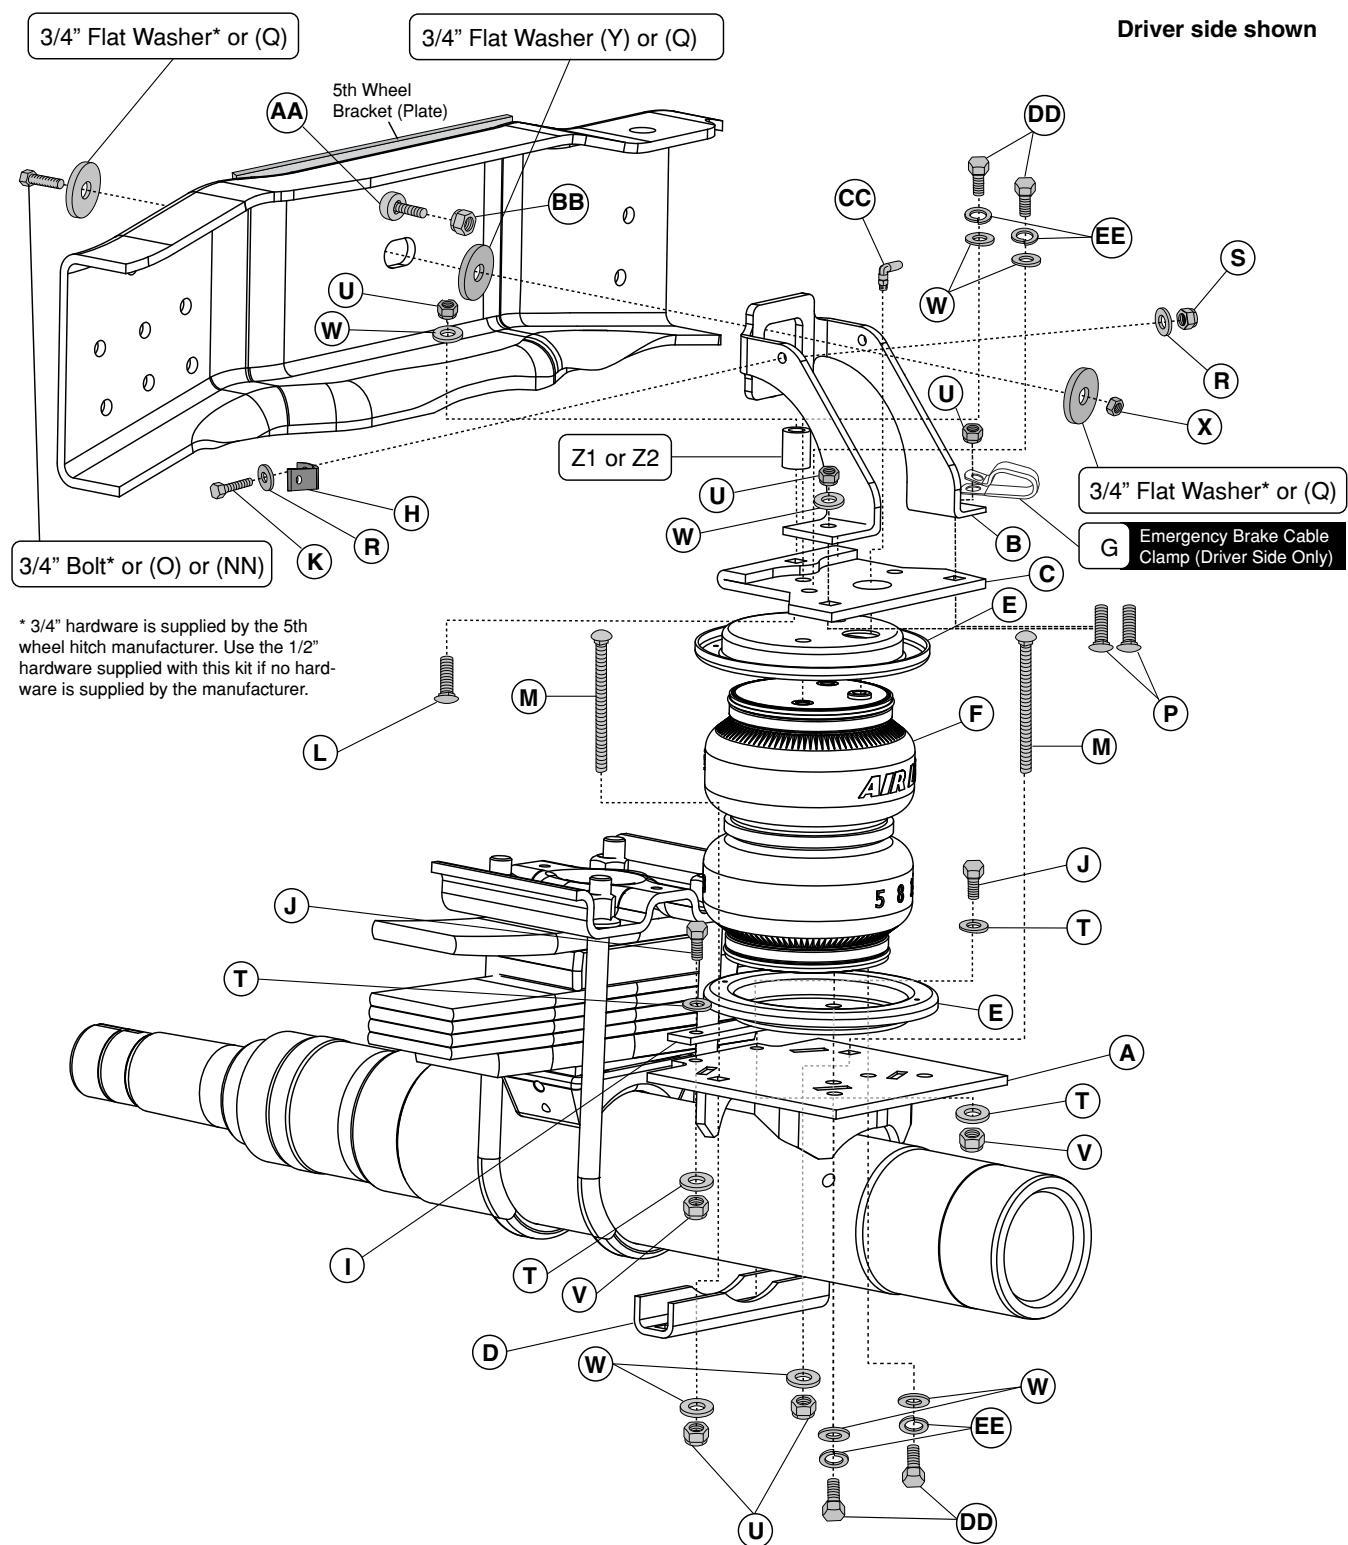
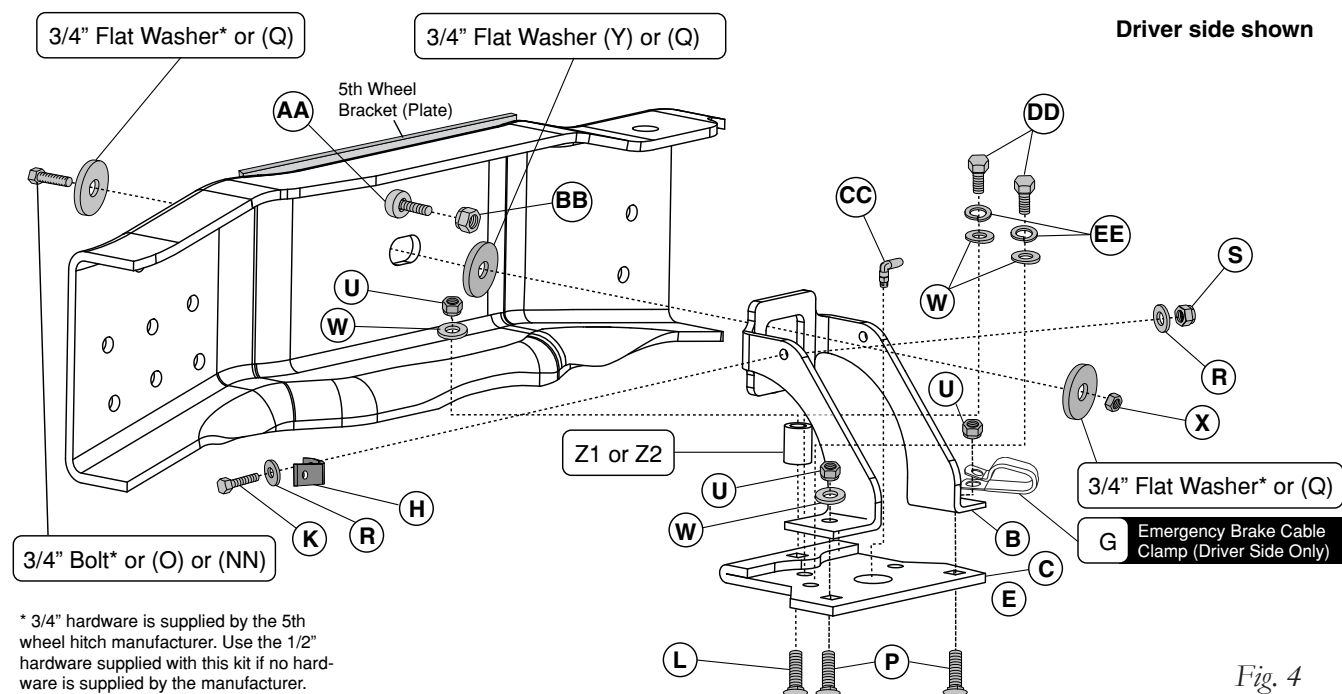

Fig. 1
Fig. 4
4. If you have a fifth wheel hitch already installed, it will be necessary to remove the 3/4" hardware that bolts the side bracket to the outside of the frame above the axle (fig. 1).
5. In order to obtain clearance between the upper bracket and the emergency brake cable bolt, on the inside of the frame, it will be necessary to remove the bolt and re-insert through the emergency brake cable bracket, from the outside of the frame in. Install the 7/16" spacer (AA) on the bolt and cap with the new M10-1.5 nylon lock nut (BB) (fig. 1). Tighten hardware securely.
- Attach the L-bracket (H) to the back or front leg of the frame brace using the 1/4"-20 x 1 hex head bolt (K), flat washers (R) and 1/4"-20 nylon lock nut (S) supplied (fig. 1). This L-bracket will eventually be used to attach the previously removed emissions line. Do not attach the line holder to it at this time.
1. Set the upper brace (B) into the driver and passenger side frame (fig. 4).
If you have a fifth wheel hitch that does not have a plate running alongside the full length of the frame (these will have an “L” bracket forward and behind the axle leaving the middle frame open) use the 1/2"-13 x 2.00" Hex Cap Screw (NN) with a flat washer (Q) through the slot in the side of the frame, then through another flat washer (Q) and finally through the upper brace. Cap with a flat washer (Q) and a 1/2"-13 nylon lock nut (X) (fig. 4). Leave loose at this time.
If you have an aftermarket fifth wheel hitch that has a bracket (plate) running alongside of the frame and it used this slot to secure the bracket to the frame with existing hardware, install the existing hardware previously removed in the “Getting Started” section from the fifth wheel installation for securing the brace (fig. 4). Make sure to install the large 3/4" flat washer (Y) between the brace and frame (figs. 1 and 4). Do not tighten at this time.
Insert a 1/2"-13 x 3 hex head cap screw (O) with a 1/2" thick flat washer (Q) through the fifth wheel plate previously drilled, the frame, then through another 1/2" thick flat washer (Q) and finally the upper frame brace. Cap with a 1/2" thick flat washer (Q) and a 1/2"-13 nylon lock nut (X) (fig. 4). Leave loose at this time.
1. Set a roll plate (E) over the top and bottom of the air spring (F) (fig. 1).